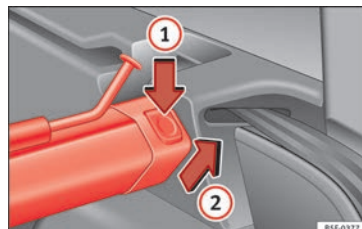

Fig. 172 In the luggage compartment: removing the net partition.
- Press the left or right release catch » Fig. 172 in the direction of the arrow ①.
- Remove the casing from the support in the direction of the arrow » Fig. 172 ②.
- Press the casing into the left and right supports in the opposite direction to the arrow » Fig. 172 ② until it engages.